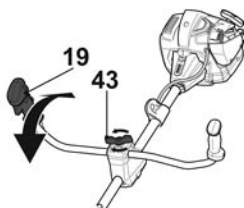

Fig. 18
- > Loosen the plastic button [43] and adjust the angle (Fig. 18).